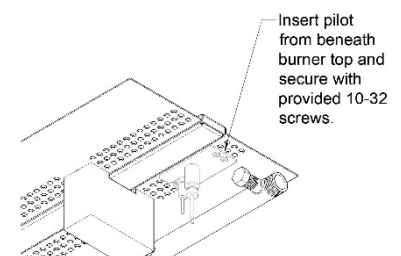

FIGURE 8
11. Insert the pilot assembly from underneath the existing burner pan to the area of the removed burner section. **Figure 8**